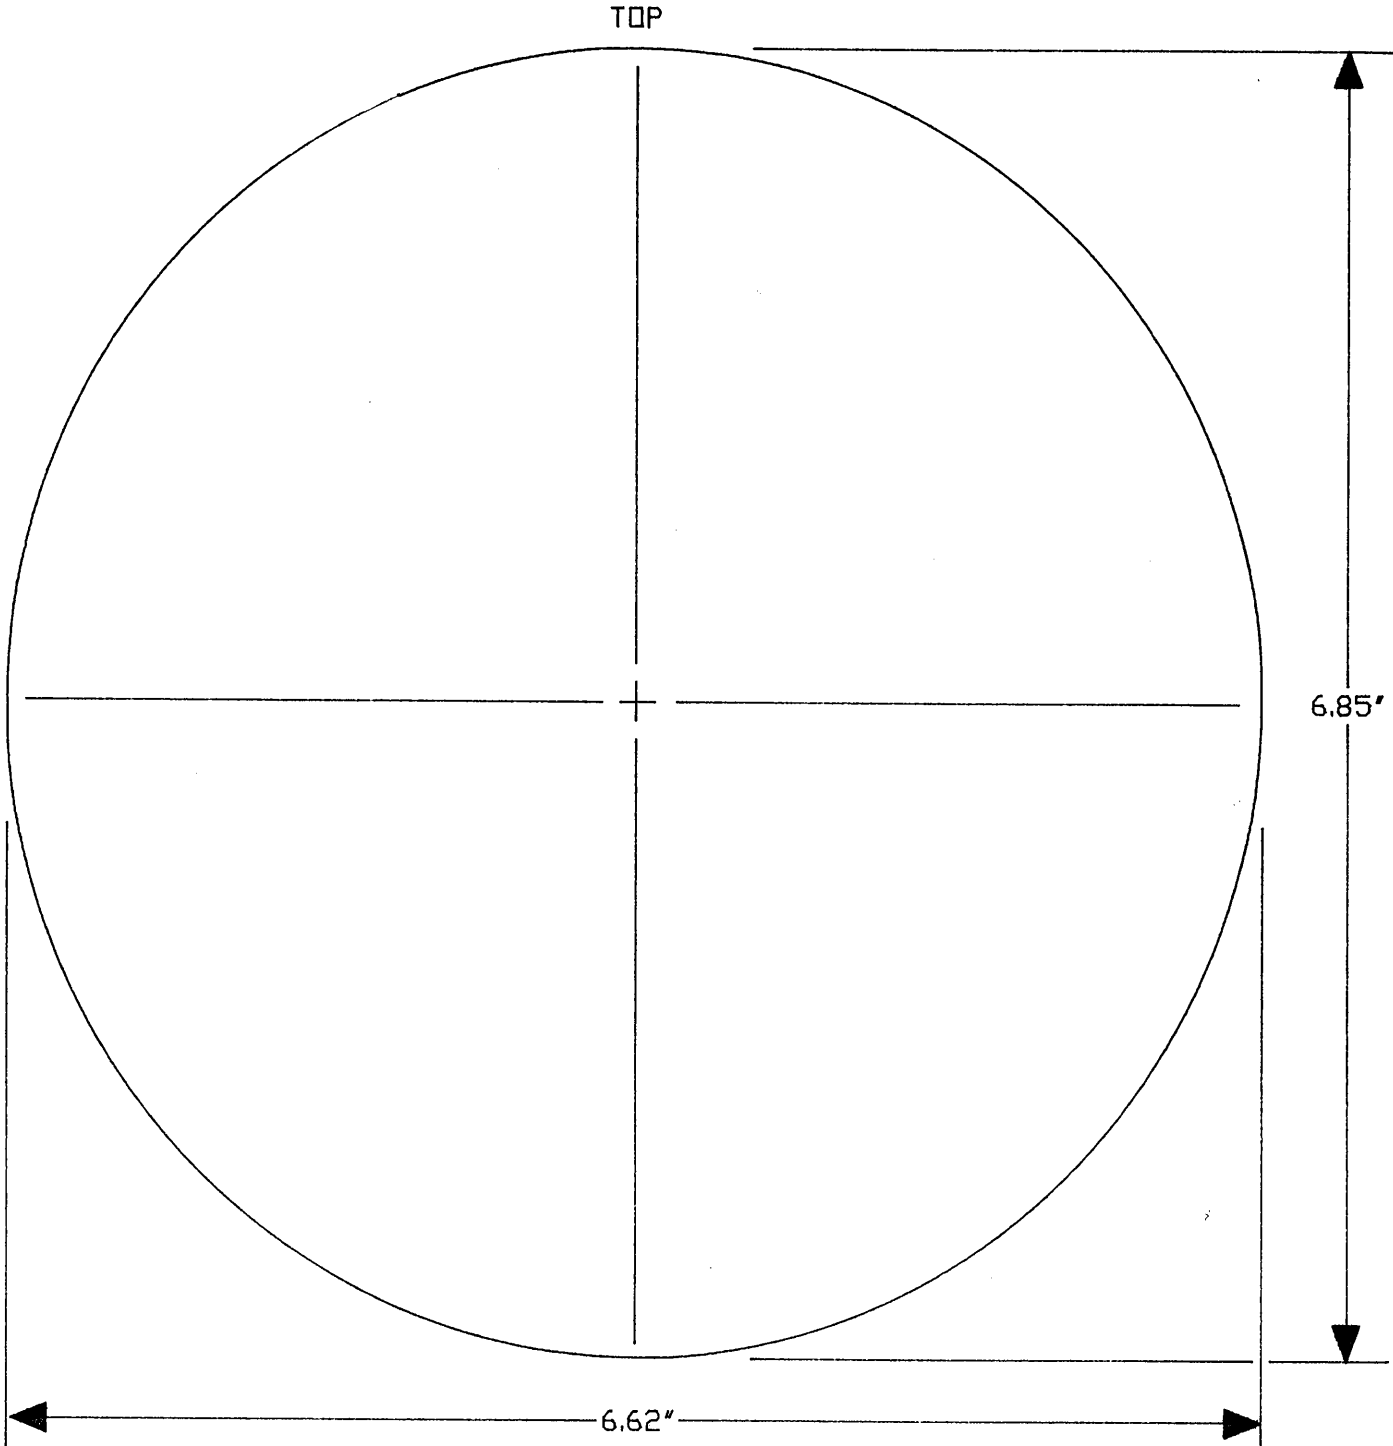

FIGURE 6
5. The first step in the installation process is to cut a hole of sufficient size in the stack to allow the PMJ to be inserted into the gas stream at an angle of 15° (stack mounting). Figure 6 shows a typical cut-out pattern for a PMJ installed in a vertical stack. This pattern is for installation of the PMJ at a 15° downward angle into the stack. The circular pattern should be marked on the side of the stack where the PMJ is to be installed using the paper pattern shown in Figure 6 and the soap stone. Then, a hole matching the pattern should be cut out using an acetylene cutting torch. After the pattern has been cut, remove any excess steel left behind with a chipping or prying tool.
6. After the proper opening has been cut into the skin of the stack, the refractory will need to be removed. The opening in the refractory needs to be at a 15° downward angle into the stack. The opening in the refractory will need to have the same dimensions as shown in Figure 6.